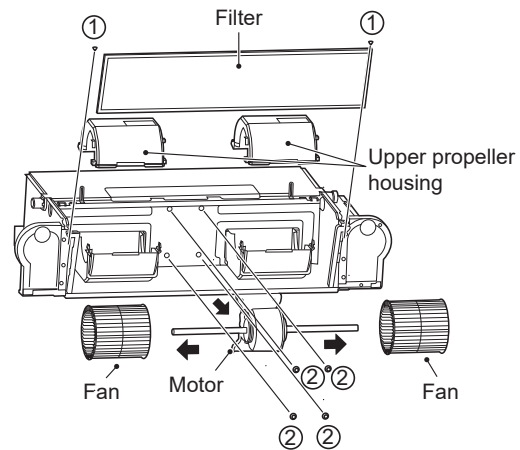

Figure 4-5 Removal of filter, upper volute and motor screws
- c) As shown in Figure 4-5, remove screws ①*2 to take the filter out.